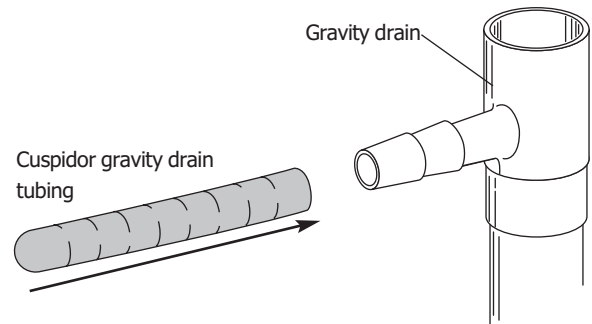

Figure 20
2. Identify the cuspidor gravity drain tubing. Using a water resistant adhesive, push the gravity drain tubing onto the gravity drain "T" connector (see Figure 20).